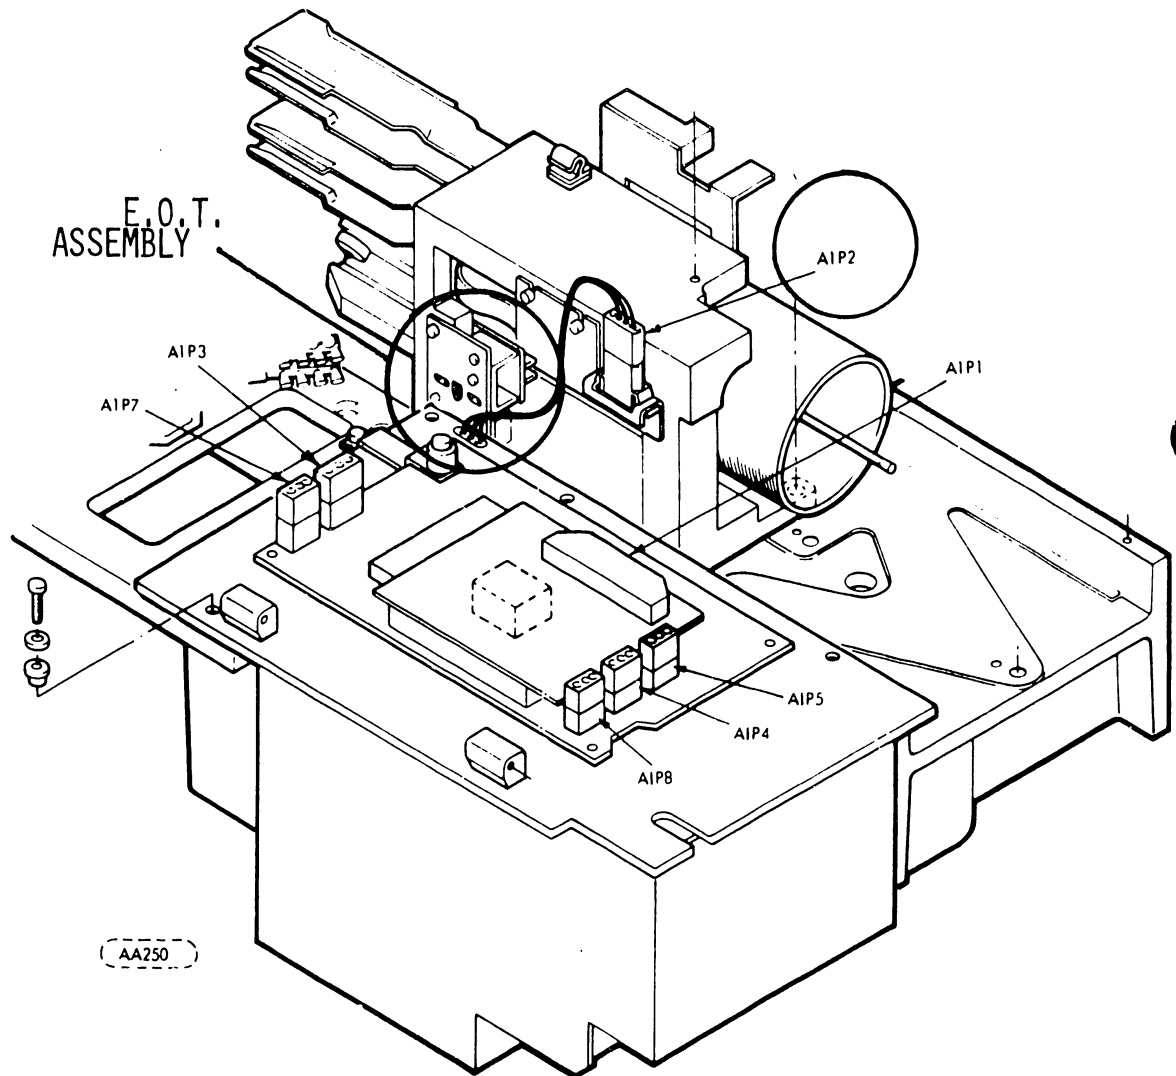

FIGURE 3-4 F.O.T. ASSEMBLY AND AIP2 LOCATIONS
5. Unplug AlP2 noting orientation according to label on casting (Ref. Figure 3-4).
24. Loosen the screws that secure the FEOT assembly, (Figure 3-4) and place a wide blade screwdriver in the slot.